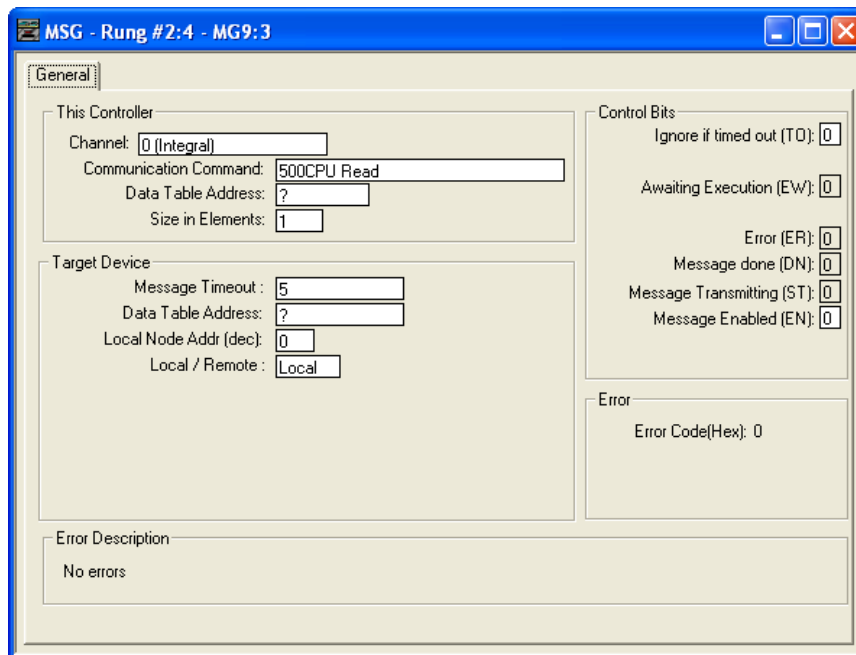

Figure 5.3 Default Message Instruction Setup Screen
- 1) Start to configure the Message Instruction by double clicking on the *Setup Screen* text that is inside the Message Instruction. The window in figure 5.3 will open. Note that this is the default window and its appearance will change considerably as you progress through these steps.